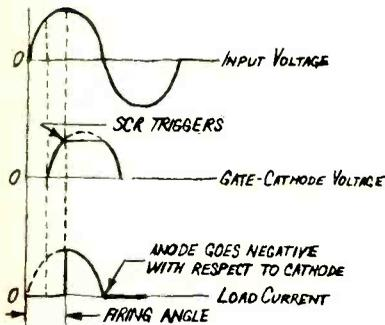

Fig. 2. Schematic of a typical pulse triggering circuit to turn on SCR. Waveforms below show voltages and current and indicate the firing angle.
**Design Considerations.** Once the SCR is inserted between the power source and the load, a means must be provided for triggering it. When used to control ac, one of the simplest ways of triggering is to use the phase control method. The negative alternation takes care of the turn-off. Then all that is necessary to drive the SCR into conduction is application of a pulse to the gate when the anode is positive with respect to the cathode. A phase control triggering scheme in its simplest form is shown in Fig. 2. By choosing the appropriate resistance and capacitance values for the network, the time, or phase, relationship of the gate with respect to the anode-to-cathode voltage can be determined. Household lamp dimmers often are designed this way and may employ two SCR's back-to-back to control both ac alternations.
If the time at which the anode voltage crosses through zero and begins its swing toward positive (with respect to the cathode) can be sensed, a trigger pulse can be provided at that instant. The SCR then starts conducting early in the positive alternation and the current (in a resistive load) follows the sine wave of voltage rather than suddenly jumping from leakage level to a high forward level (see Fig. 2). Several manufacturers offer IC's designed specifically as zero-voltage detectors to use in this application.